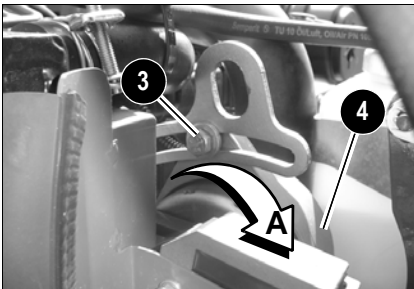

Fig. 27: Retensioning the V-belt
- ☞ *Use a suitable tool to push the dynamo in the direction of arrow A until reaching the correct V-belt tension (fig. 27)*